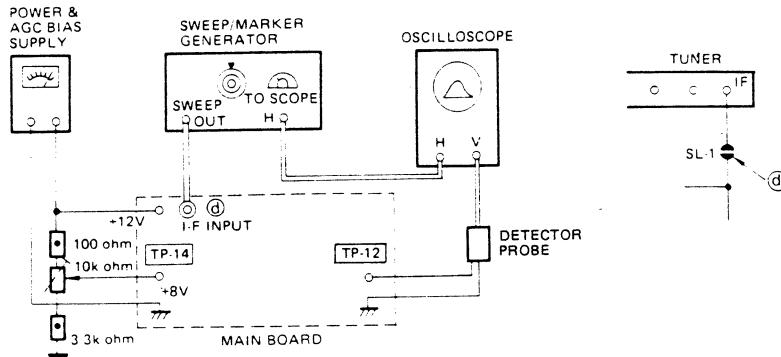

Figure 7. Picture I-F Sweep Alignment
GENERAL Refer to Figure 7 for test equipment connection.
PRELIMINARY STEPS 1. Disconnect the solder link SL-1 (• see Figure 7) on the foil side of the Main Board.
SWEEP MARKER GENERATOR Connect to the point ④ as shown in Figure 7 on the Main Board.
PRELIMINARY STEPS 1 Disconnect the solder link SL-1, SL-3. (• see Figure 7 and 9) on the foil side of the Main Board.